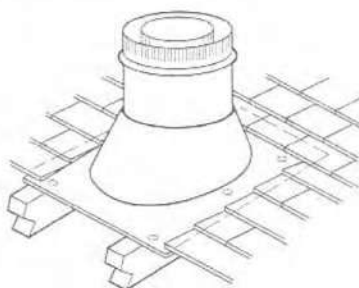

Figure 18
I. Extend the vent sections through the roof structure. Install the roof flashing over the vent section and position such that the vent column rises vertically (use carpenter's level) (Figure 18). Nail along perimeter to secure flashing or adjust roofing to overlap the flashing edges at top and sides only and trim where necessary. Seal the top and both sides of the flashing with waterproof caulking.